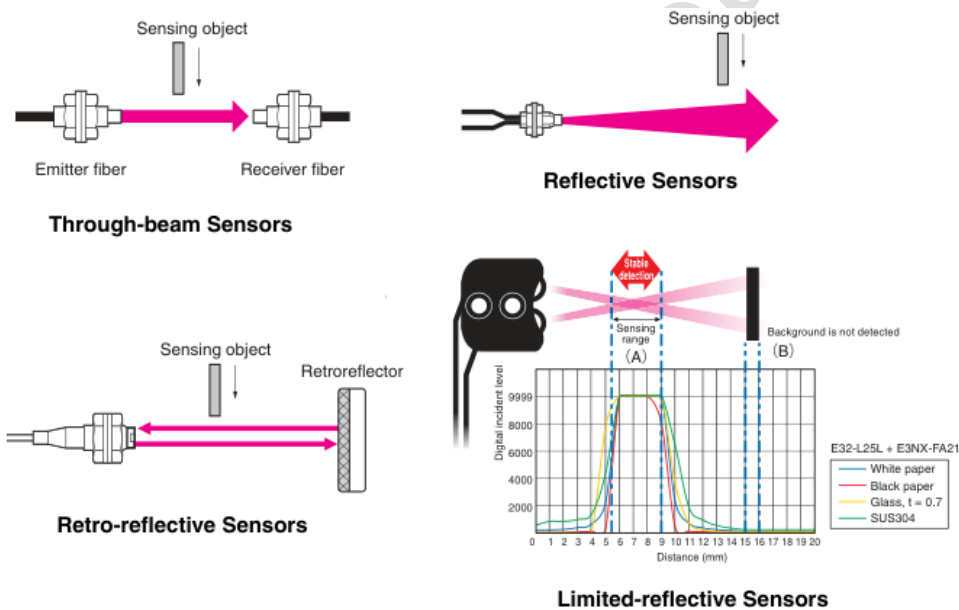

Fig.9 Optical fiber classification.
4. Classification (Fig.9)
- iv. Limited-reflective Sensors: Sensors receive light reflected from the sensing object to detect it. The emitter and receiver are installed to receive only regular-reflection light, so only objects that are at specific distance (area where light emission and reception overlap) from the Sensor can be detected. In Fig.9 the sensing object at (A) can be detected while the object at (B) cannot.